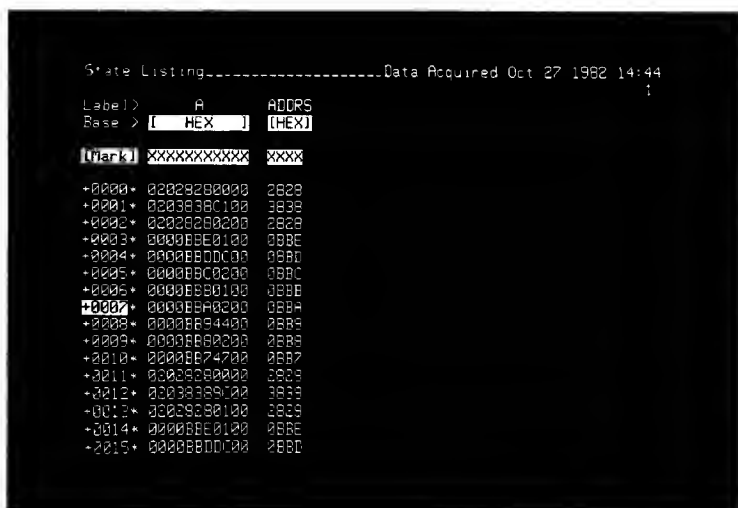

Figure 3-5. Labeling Address Bits In Trace List
10. Press the LIST key. See figure 3-5. The information collected from the sixteen channels of pod 3 and pod 2 (connected to the address bus in your system) is shown under a separate label called ADDR. Is this the address space you expected to see executed by the system under test? If not, check your probe connections and check the clock polarity in the format specification.